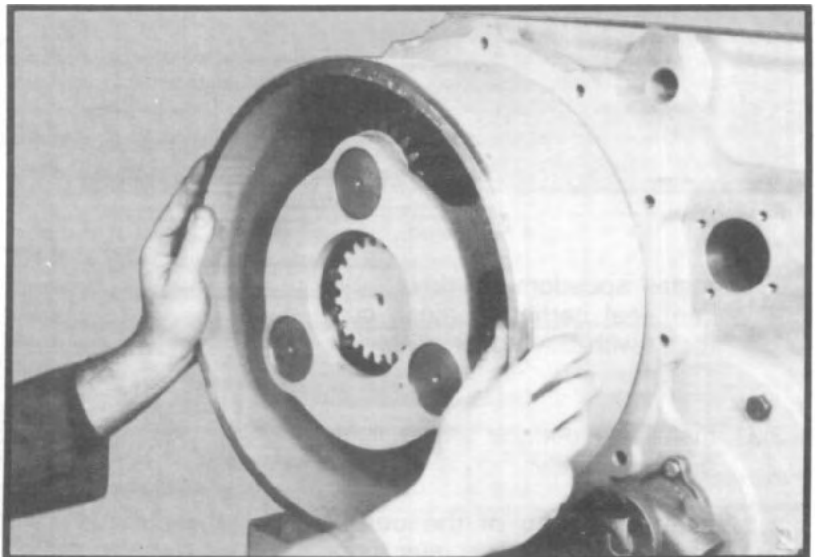

Fig. 155
- 3.22 Tap planetary housing into rear face plate and against o-ring. (See fig. 155.)